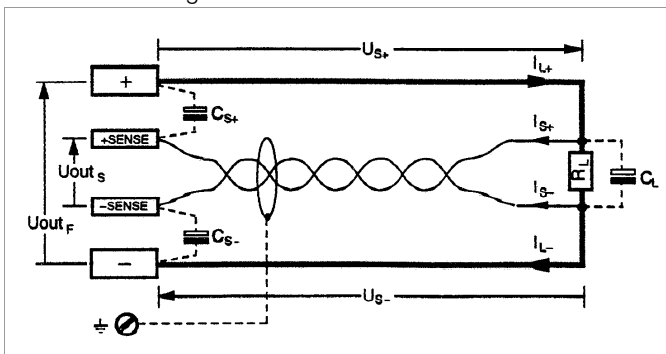

Figure 5.2 Connecting the Power Consumer for Sensing Mode Operation
- The **parameters** and **limit values** included in figure in **figure 5.2** and in the section entitled **Electrical Data** apply for operation with the sensing leads.
- Control fluctuations can be counteracted with one capacitor each ( $C_{S+}$ ,  $C_{S-}$ ) between the **SENSE** and **output terminals** (see Figure 5.2).